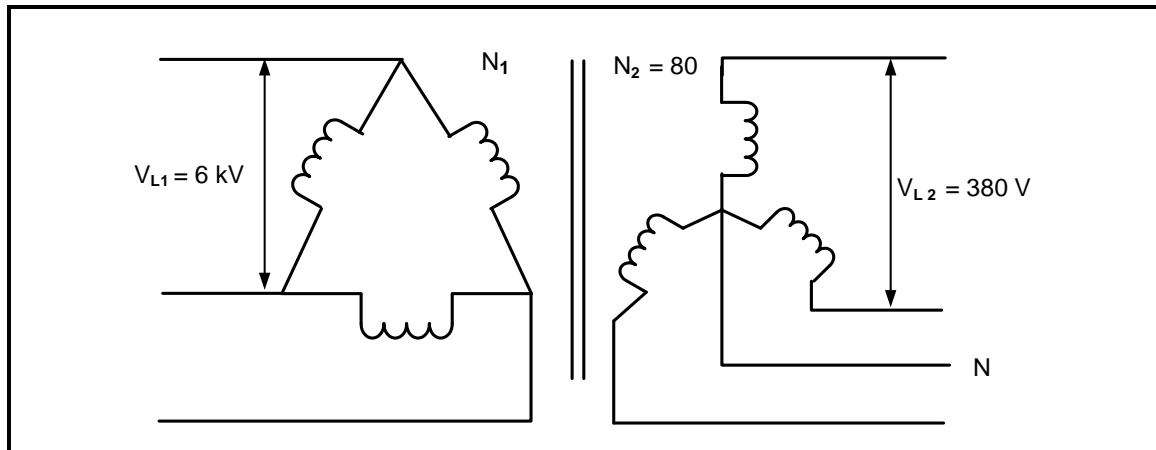

FIGURE 5.4: THREE-PHASE TRANSFORMER
- 5.4 FIGURE 5.4 below shows a 200 kVA three-phase transformer. The primary line voltage is 6 kV and the secondary line voltage is 380 V with 80 turns on the secondary side.